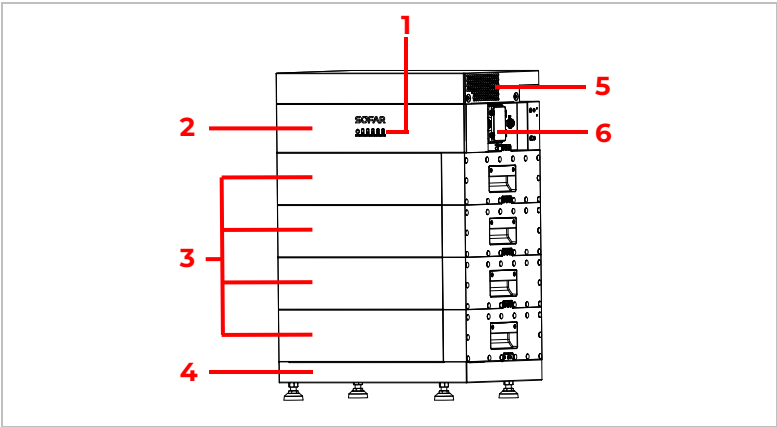

Figure 3-4 System appearance diagram
2. Remove the installation cardboard and place it on the base as shown in Figure 3-4.